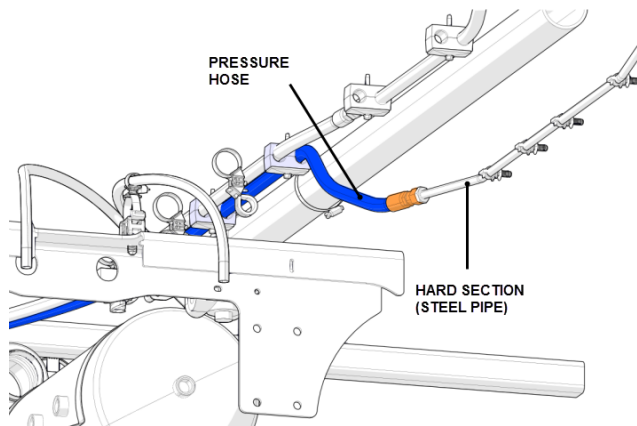

FIGURE 4
- In the rear wheel well, it is located on curbside. It is connected to a hard section (steel pipe) from the steering pump (fig. 4). Search above the rear R.H. side air spring of the drive axle